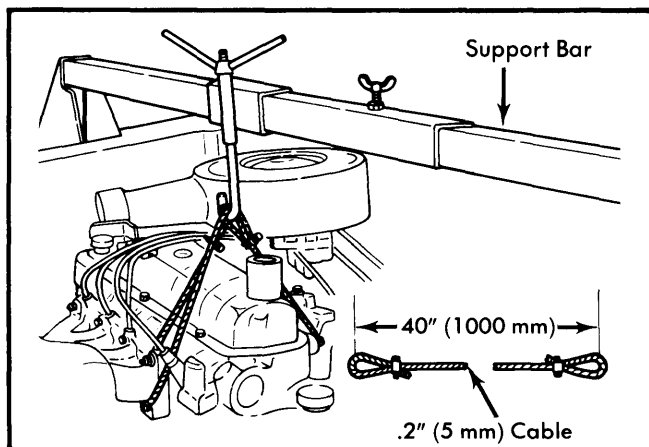

Fig. 2 Engine Support Bar Assembly
3) Insert engine support bar and clamp. See Fig. 2. Engine must be supported with transmission removed.